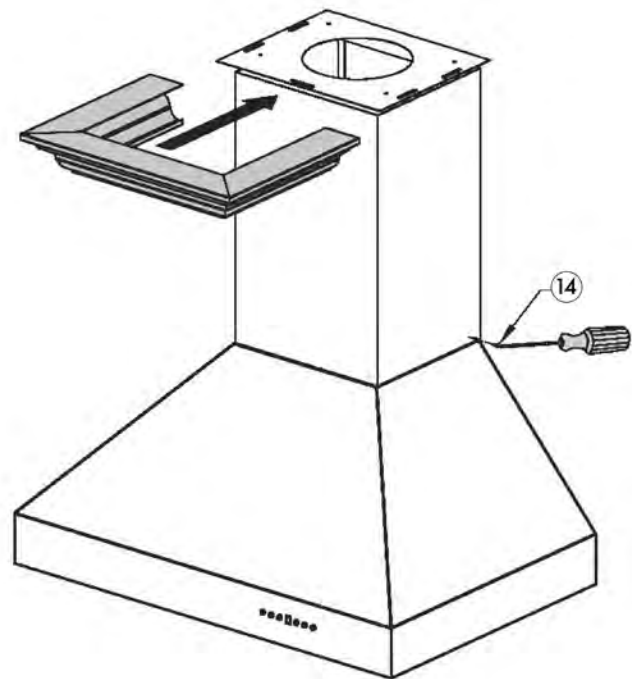

Figure 10
4. Slide the crown molding onto the crown bracket and secure into place (*Figure 10*). The crown should cover the small gap between the top of the chimney and the ceiling above. Ensure that it installs properly and is level.